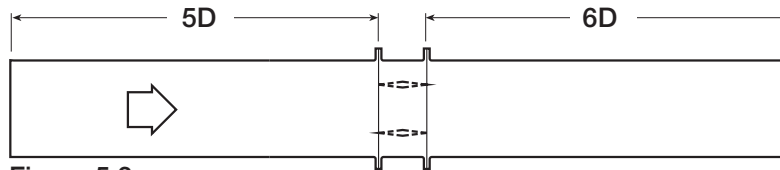

Figure 5.3
**Figure 5.3** Illustrates a fully ducted damper. This configuration has the lowest pressure drop of the three test configurations because entrance and exit losses are minimized by straight duct runs upstream and downstream of the damper.
## AMCA Figure 5.3